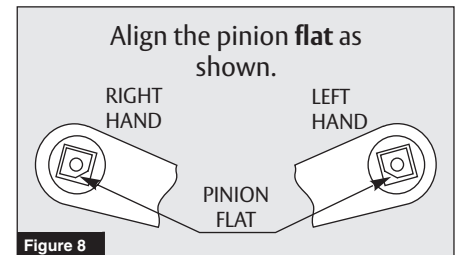

Figure 8
**NOTE:** Pinion flat should be aligned as shown. (Figure 8)